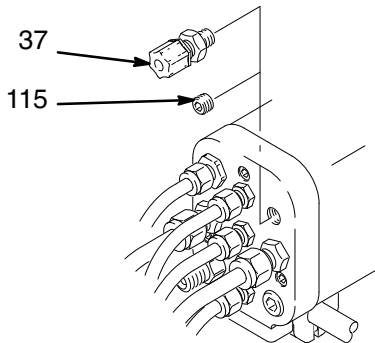

Fig. 6
1. Remove the 1/8 npt plug (115) from the manifold's fiber optic port, and install the black fiber optic fitting (37). See Fig. 6.